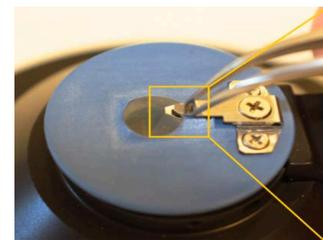

Figure 3 Changing the tip
- 15) Use the small Philips screw driver to loosen the center screw (Figure 3), remove old tip, take new tip from its box with tweezers and slide it under the metal lid until the line on the cantilever lines up with the metal lid, without ever setting the tip down. Tighten center screw until the tip appears spring-loaded.